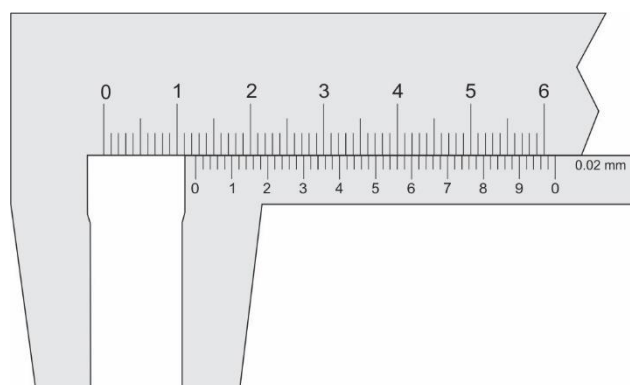

Figure 6 Another reading on a vernier caliper
3.5. What is the vernier caliper reading in **figure 6**?